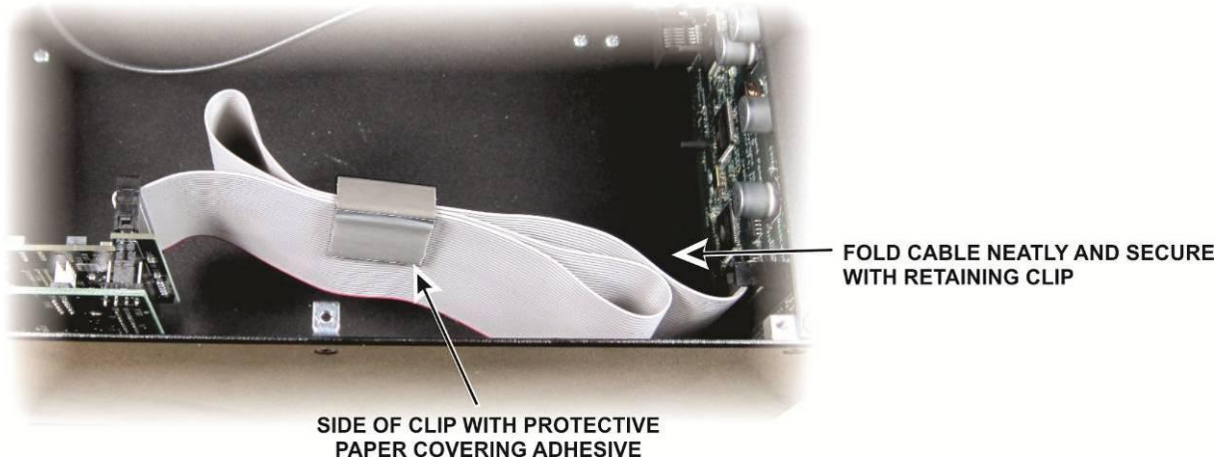

Figure 23. Placing Clip on the Ribbon Cable.
- ❑ Gather the ribbon cable into neat folds and place the clip on the cable to hold it in place as shown in Figure 23. The clip has ridges to grip the cable tightly. Use gentle folds. Avoid creasing the cable.